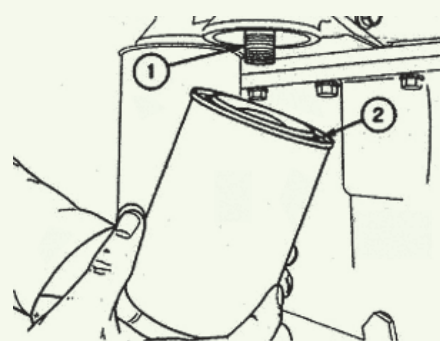

Figure 5.9 Replacing the oil filter canister: (1) the adaptor; (2) the canister.
2. Stop the engine, remove the sump drain plug (Figure 5.9) and O-ring and drain the lubricating oil from the sump.
4. Fill the sump to the MAX mark on the dipstick (Figure 5.9) with new, clean lubricating oil of an approved grade (see 4.Engine Fluids).
Refer to Figure 5.9.
2. Remove the filter canister with a strap wrench or similar tool. Ensure that the adaptor (Figure 5.9) is secure in the filter head, and then discard the canister.